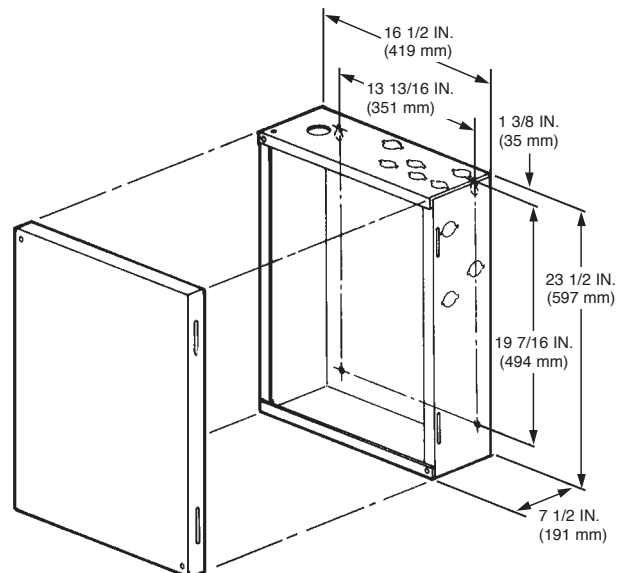
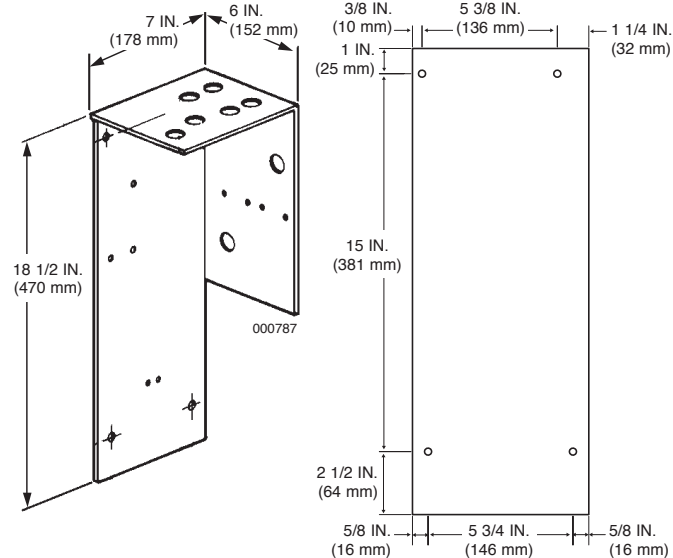
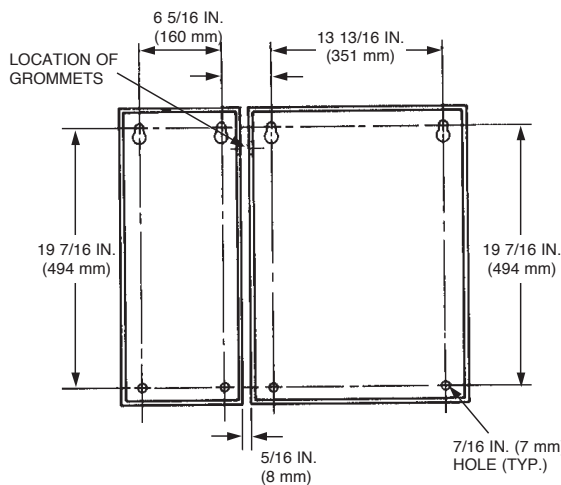

FIGURE 5-1
FIGURE 5-2
FIGURE 5-3
Mount the regulated release assembly, OEM release assembly, and each regulated actuator assembly required by completing the following steps: See Figure 5-1, Figure 5-2, and Figure 5-3.
- d. When mounting a 6 gal (22.71 L) manifolded system (or a 9 gal (34 L) system) it is critical that each mounting box is located as shown in Figure 5-3. There must be a 5/16 in. (7.9 mm) space between each box. Less than 5/16 in. (7.9 mm) causes interference with the covers, and more than 5/16 in. (7.9 mm) causes a gap between the two hose grommets which exposes the hose to possible tampering or damage.